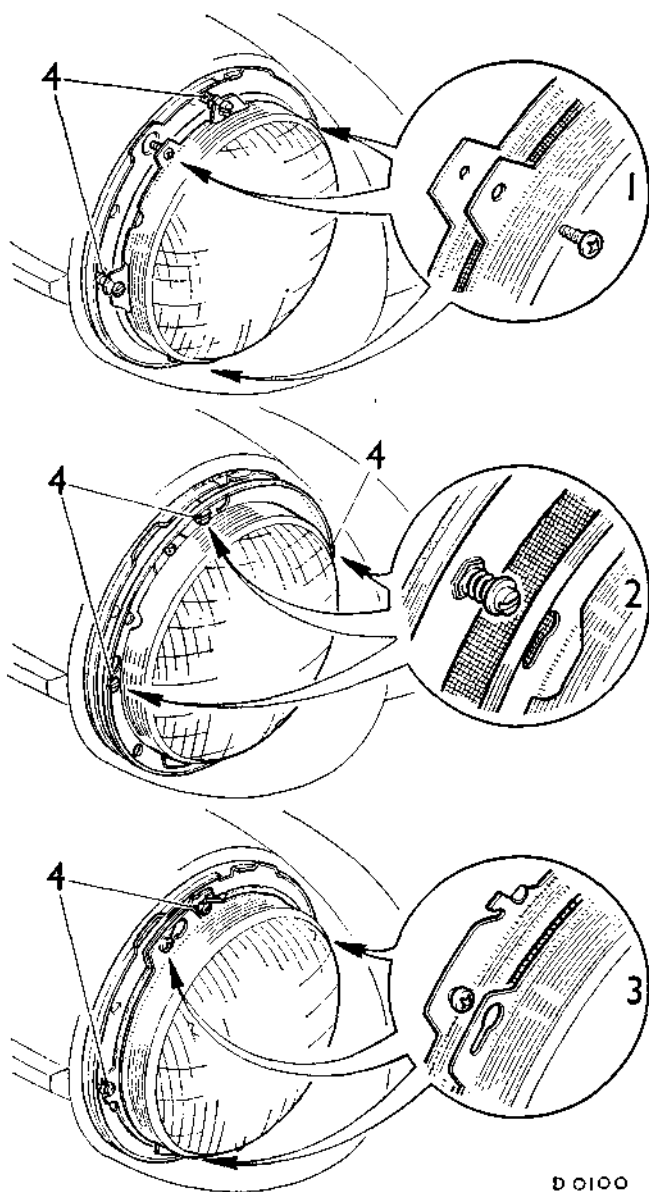
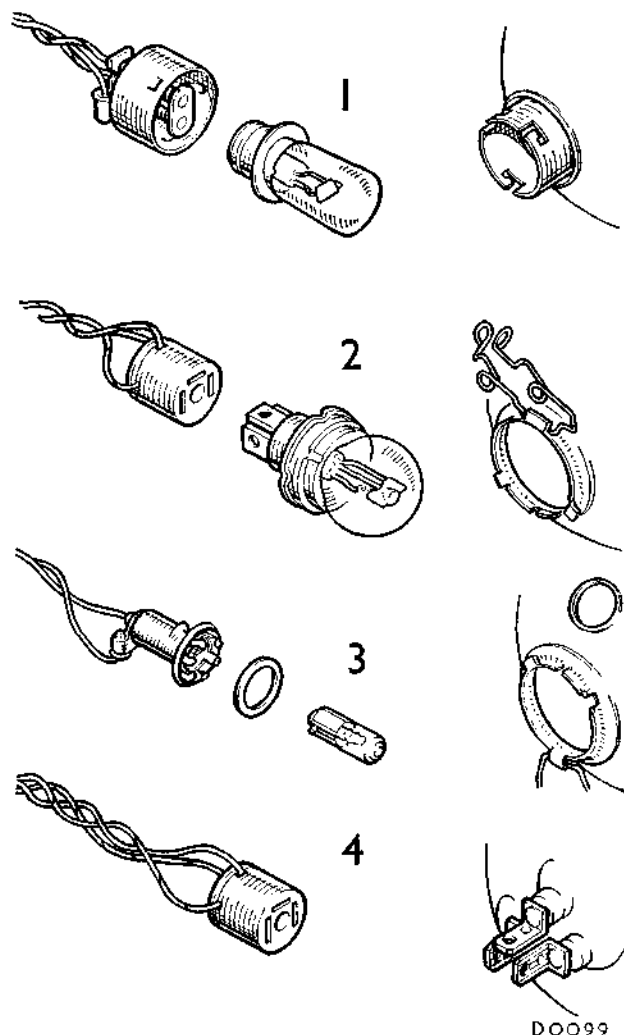

Fig. N.14
Fig. N.15
Variations within the two basic types cater for the local lighting regulations existing in the country for which the car was produced. The method of retaining and adjusting the light unit together with the type of lens and bulb used are subject to territorial variation. Fig. N.14 shows the alternative methods of retaining and adjusting the light unit and Fig. N.15 the different types of bulb fittings used.
## REMOVABLE-TYPE RETAINING SCREW (1) Fig. N.14
## COMBINED ADJUSTING/RETAINING SCREW (2) Fig. N.14
## CAPTIVE-TYPE RETAINING SCREW (3) Fig. N.14
## CAP-TYPE HOLDER (1) Fig. N.15
## SPRING CLIP TYPE (2) Fig. N.15
## HEADLAMP PILOT LAMP (3) Fig. N.15
22. Set the beam horizontally by turning the adjusting screw located on the right-hand side or, on some models, the adjusting screws on both sides of the lamp (see Fig. N.14) in the required direction.